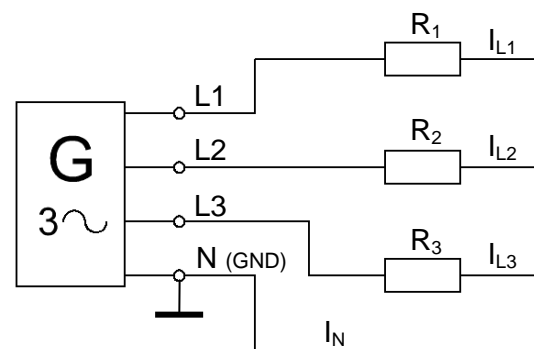

Fig. 12.3.2.1: Measurements on the star circuit
- Load the three-phase generator on the Electronic Circuits Board with 3 resistors connected in a star circuit, as in Fig. 12.3.2.1. First, use 3 resistors of the same value, each 1 k $\Omega$  (assembly details are given in section 12.3.3).